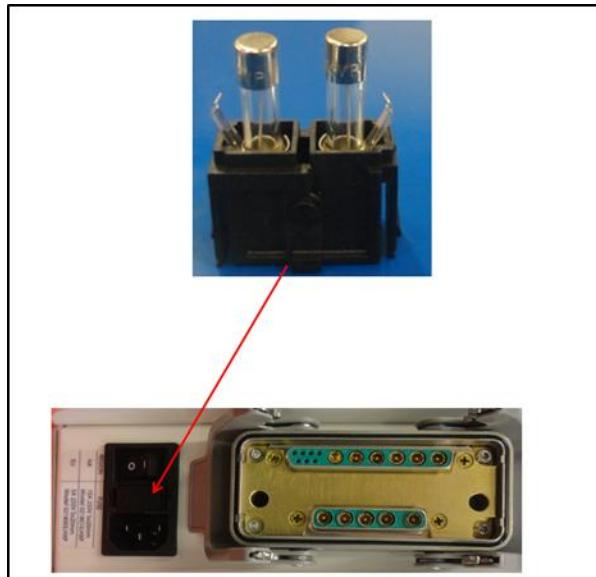

Figure 14: Fuse drawer placement
1. Turn off the power to the System Electronics (SE).
5. Insert the fuse drawer back into the power entry module with the notch on the right side (*Figure 14*).